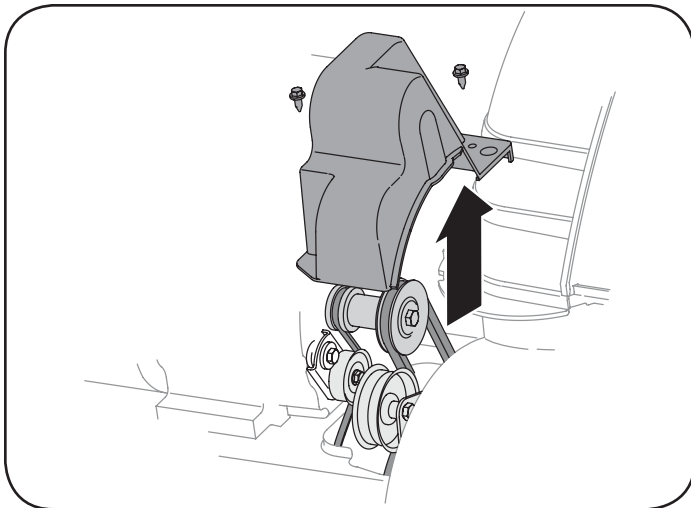

Figure 31
2. Remove the plastic belt cover on the front of the engine by removing the two self-tapping screws. See Figure 31.
2. Remove the plastic belt cover on the front of the engine by removing the two self-tapping screws. See Figure 31 on previous page.